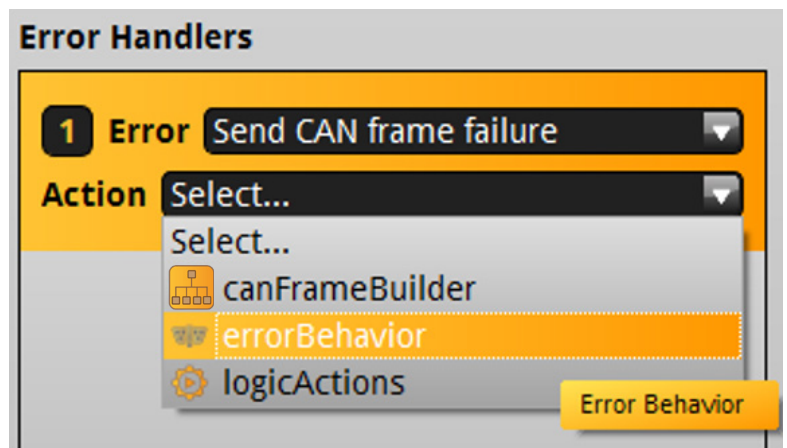

Figure 56. Reconfigurable Address Claim Process.
6. Select the action that will be triggered when the error occurs in the “Action” combo box as seen in Figure 56.